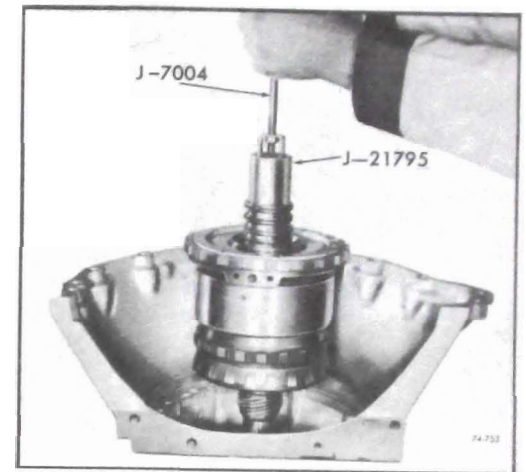

Figure 76-753
9. Install complete gear unit assembly into case making certain center support bolt hole is properly aligned with hole in case. See figure 76-753.